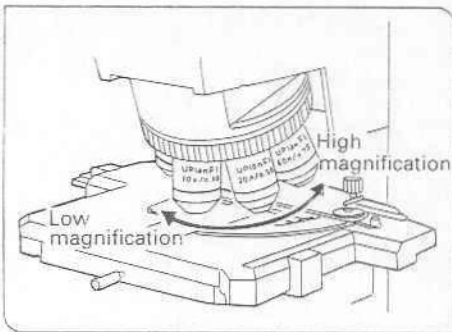

Fig. 8
5 Mount the Objective (Fig. 8)
1. Remove the eyepiece cap ①.
2. Insert the eyepieces ② into the eyepiece sleeves as far as they will go. (Fig. 8)